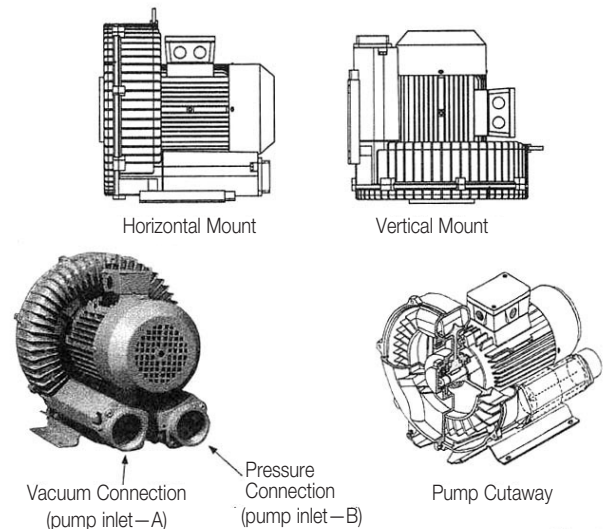

Figure 1
As illustrated in Figure 1, Sweetwater® Series 2 blowers can be installed in any physical configuration.
1. For vacuum operation, connect the suction pipe to connection A, and for pressure operation connect the pressure pipe to connection B (see Figure 1). Install startup screens before startup to protect pump from debris.